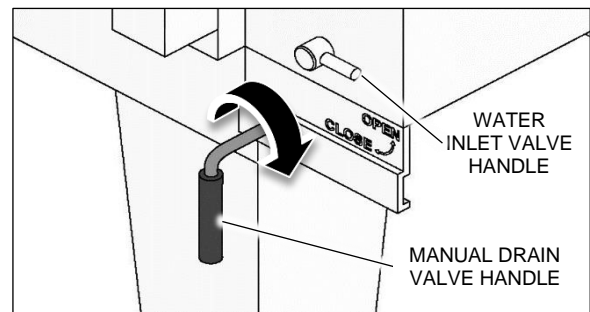
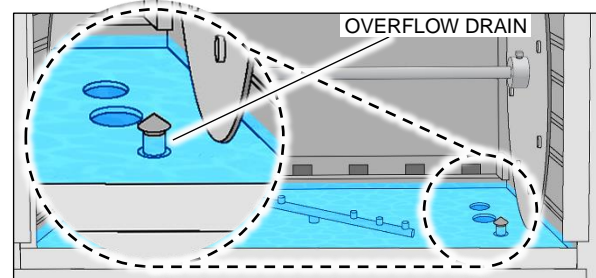

Figure 4-1
Figure 4-2
2. Make sure the manual drain valve handle is closed (Figure 4-1).
3. Using the water inlet valve handle (Figure 4-1), add water to the oven's water pan, filling it to the top of the overflow drain (Figure 4-2).